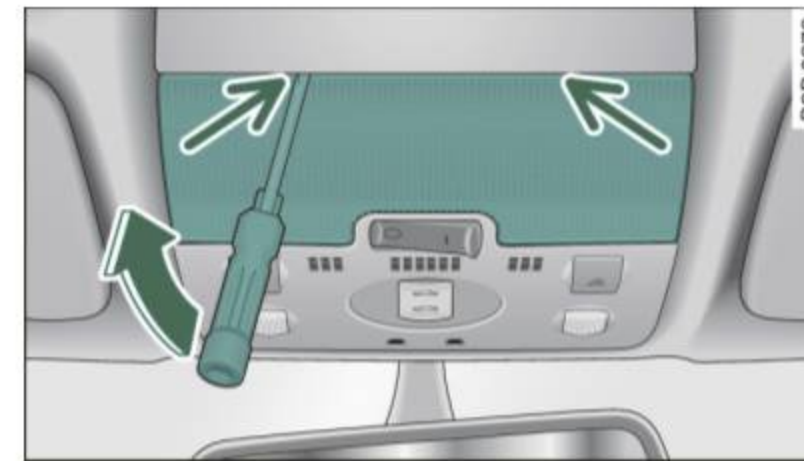

Fig. 60 Light unit in the headliner: removing the glass
- Insert the screwdriver carefully between the light unit and the glass into the visible marks (arrows) ⇒ *page 74*, fig. 60.